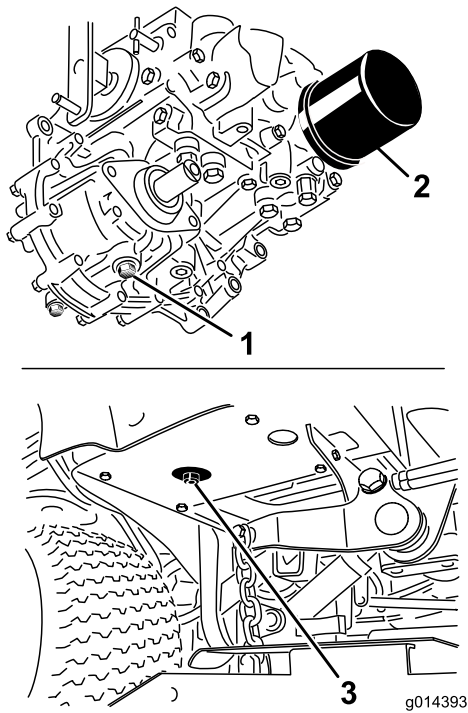

Figure 53
3. Place a large pan under the hydraulic reservoir and transmission case and remove the plugs to drain all the hydraulic fluid (Figure 53).
4. Clean the area around the hydraulic-fluid filter and remove it (Figure 53).